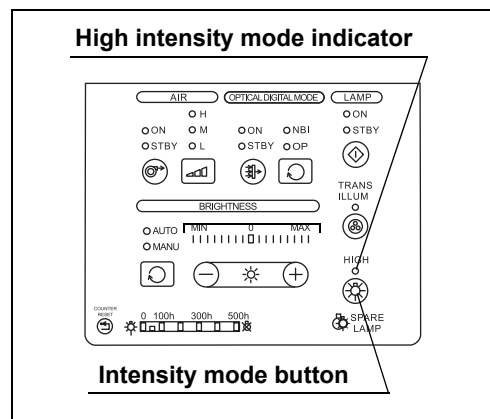

Figure 4.21
- 5 Press the intensity mode button to switch to the normal intensity mode. (See Figure 4.21)
- 6** Confirm that the high intensity mode indicator goes out and the light emitted from the endoscope's distal end decreases compared to the high intensity mode. (See Figure 4.21)